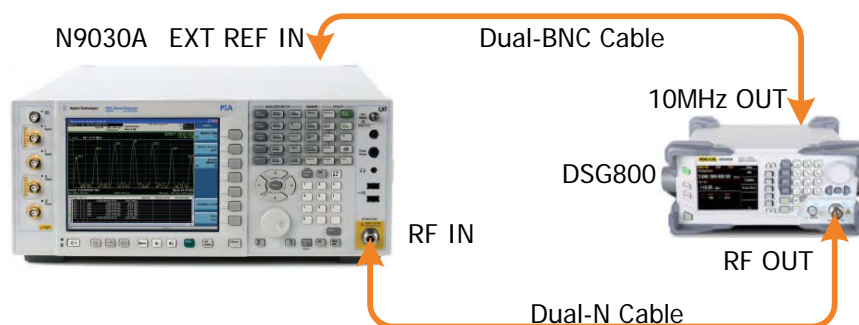

Figure 2-3 Second Harmonic Distortion Test Connection Diagram
1. Synchronize DSG800 and the signal analyzer. Connect the RF output terminal of DSG800 with the RF input terminal of the signal analyzer as shown in Figure 2-3.